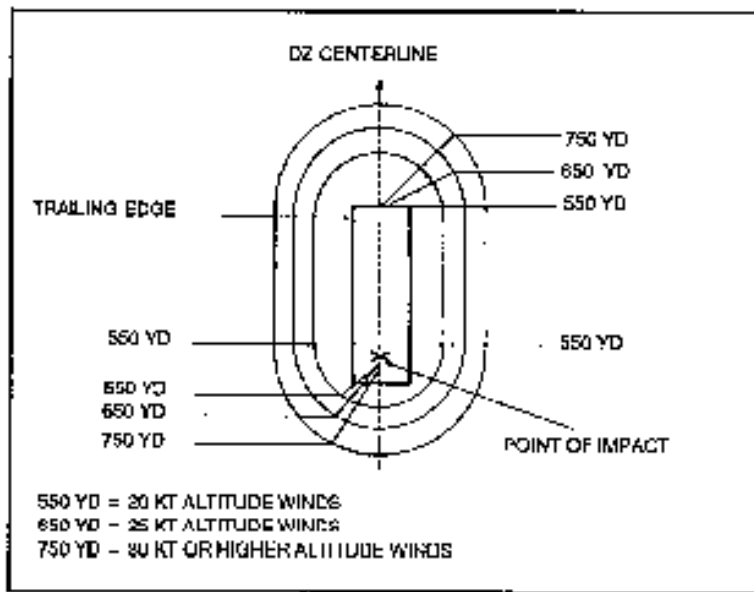

Figure 6-1. High tension lines criteria.
- (1) Trees 35 feet or higher, which would impede recovery of personnel or equipment.
- (2) Water more than 4 feet deep within 1,000 meters of any edge of the drop zone.
- (3) Any other conditions that may injure parachutists or damage equipment, such as barbed wire fences, swamps, rocks, ditches, and gullies.
- (4) Power lines that are carrying active current of 50 volts or greater. Based on the reported altitude wind, a safety zone is created in which power must be interrupted to prevent accidental injury of a parachutist. Figure 6-1 shows the size of the safety zone for various altitude wind velocities during static line operations.